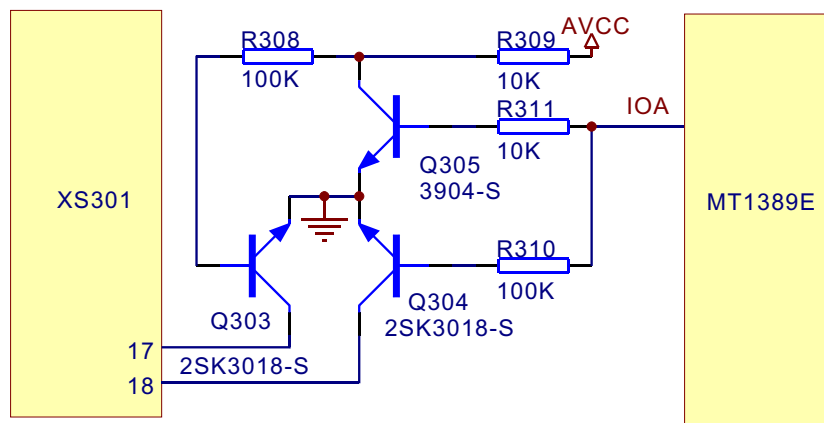

Figure 3.2.3.1 CD/DVD conversion circuit diagram
1. CD/DVD conversion circuit is shown as in the following figure 3.2.3.1: